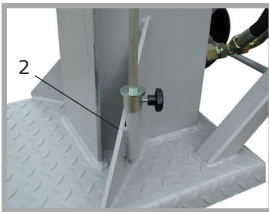

Fig. 2
In order to avoid dangerous hitting of the wedge against the pressure plate on the floor, lift the lower stop-bush (2) up. (Fig. 2) The control rod is duly scaled in order to facilitate a precise setting of the stroke. **BEWARE:** the wedge will only travel down to the position set by the stop-bush on the control rod.